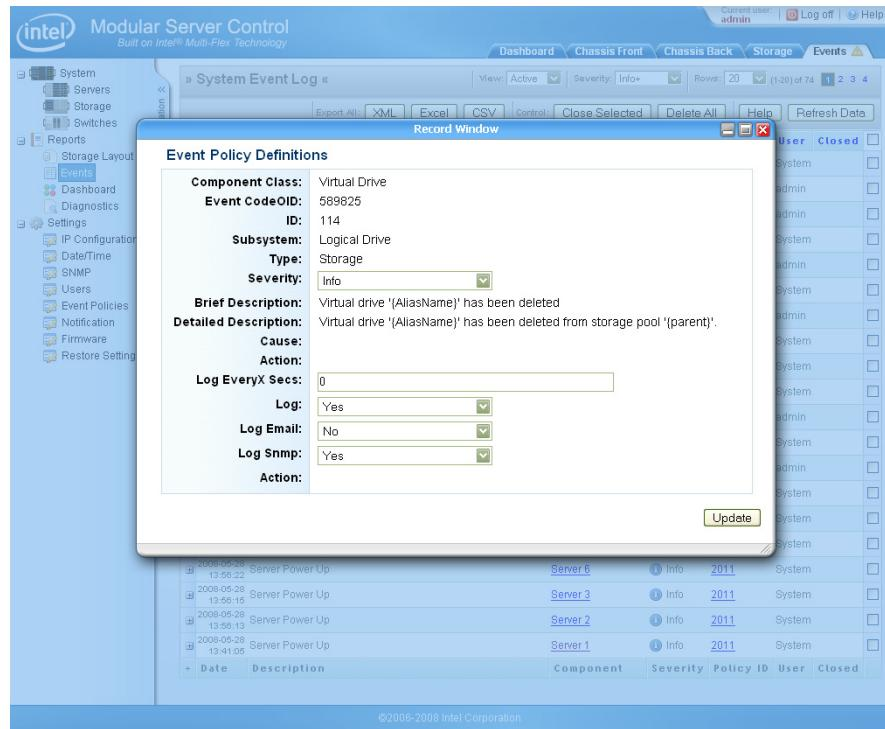

Figure 68. Event Policy Record Window
- View event details: Click on the + sign to the left of the specific event row to display further details about the event, as shown in Figure 67. Clicking on the Policy ID number opens the Event Policy Definition dialog as shown in Figure 68. The Event Policy actions can be modified in this window.